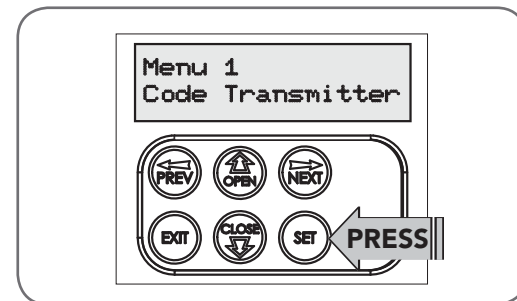

Fig 8.2
- b. Press SET to enter the code set procedure (Fig. 8.2).